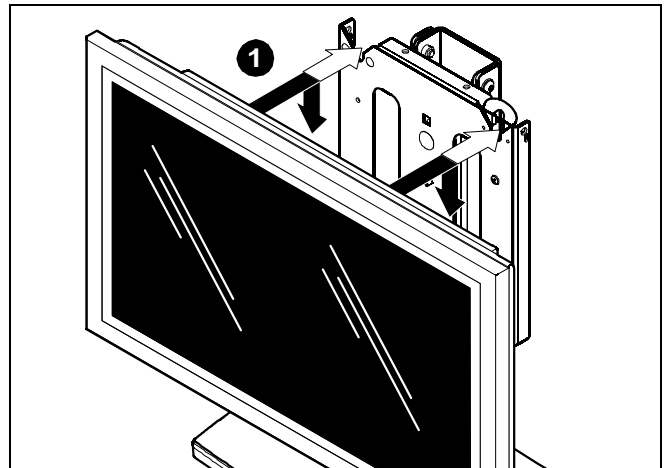

Figure 6
1. While supporting both sides of display, align four mounting buttons on display or interface bracket with four mounting holes in faceplate. (See Figures 6 & 7)
2. Lower display into place listening for audible "click" to ensure recessed area of mounting buttons are properly seated in lower area of mounting holes. (See Figures 6 & 7)